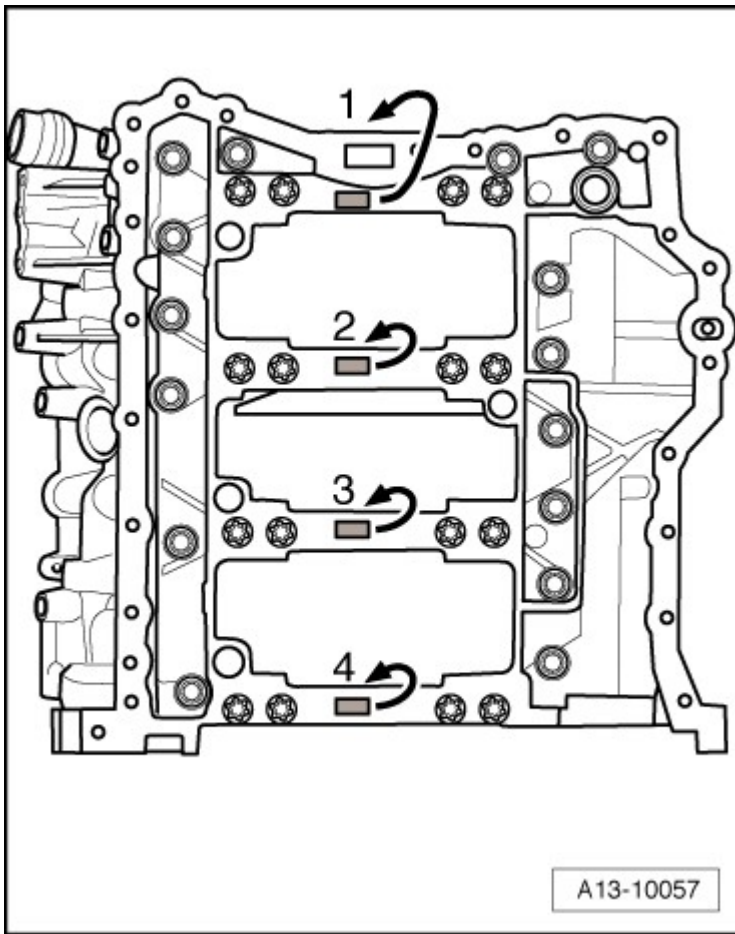

Fig. 6: Identifying Allocation Of Crankshaft Bearing Shells For Cylinder Block
- Insert new bearing shells for cylinder block with proper color marking, refer to **Fig. 6**